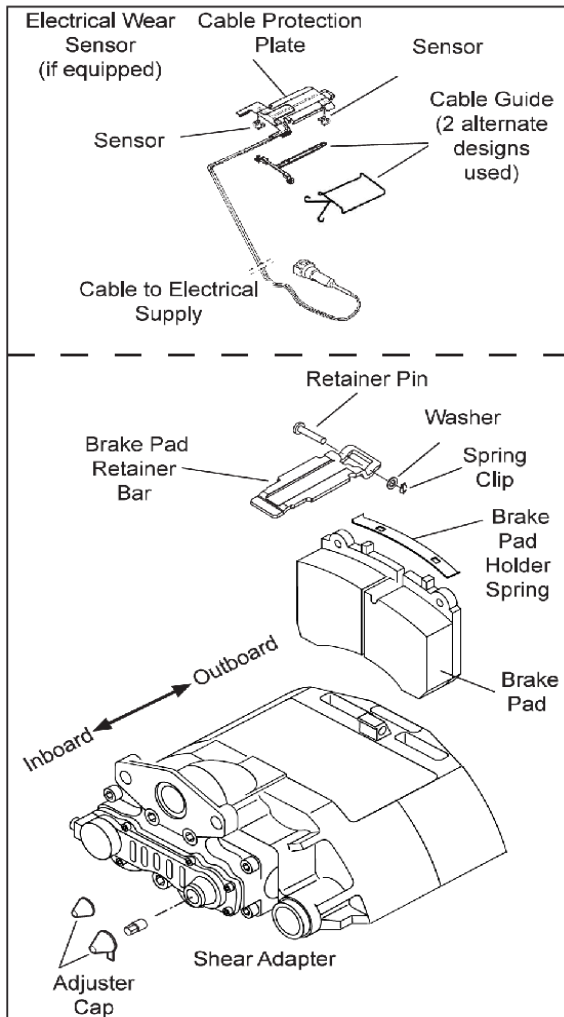

Figure 5: Brake Pad Replacement
7. While pressing down against the brake pad retaining bar, remove the spring clip, washer, retainer pin, and brake pad retainer bar. See **Figure 5**.